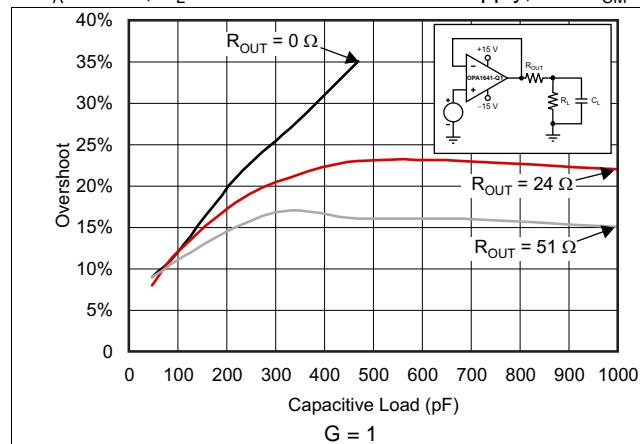
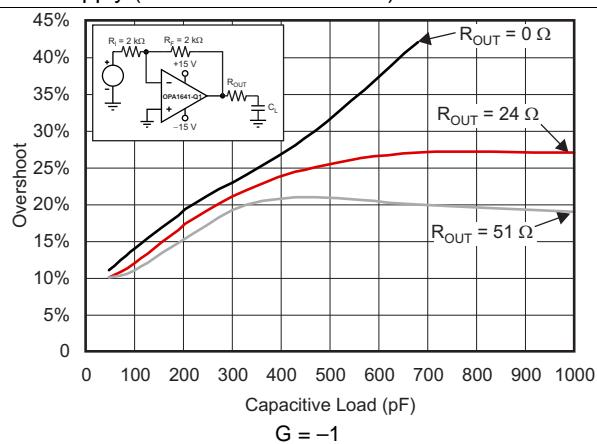

图 19. Small-Signal Overshoot vs Capacitive Load
图 20. Small-Signal Overshoot vs Capacitive Load
(1) Full power bandwidth = SR / $(2\pi \times V_P)$, where SR = slew rate.
(2) See Figure 19 and Figure 20.
图 19 and 图 20 illustrate graphs of *Small-Signal Overshoot vs Capacitive Load* for several values of R_{OUT} . For details of analysis techniques and application circuits, see see Feedback Plots Define Op Amp AC Performance available for download at www.ti.com